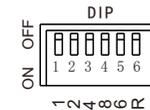

Fig. 3
- (1) DIP switches: SW1~SW3 for programs selection, please see Attached Table (1=ON, 0=OFF). SW4 and SW5 are unused; SW6 for remote controller; (see fig. 3)
- (2) Calculation of DIP address code:
- (3) Using of Wireless Remote Controller: